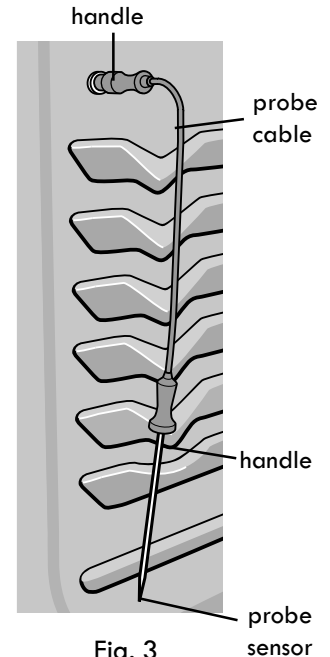

Fig. 3
3. Plug the meat probe into the probe receptacle located on the left front oven cavity side (See Fig. 3).